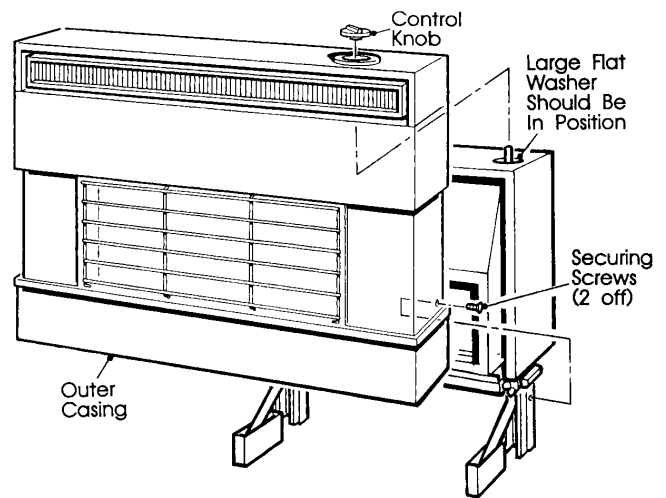

Fig. 18
- c) Fit the outer case at the top first by locating the two pegs on the back panel into their holes in the case. Swing the front of the case into position. See Fig. 18.